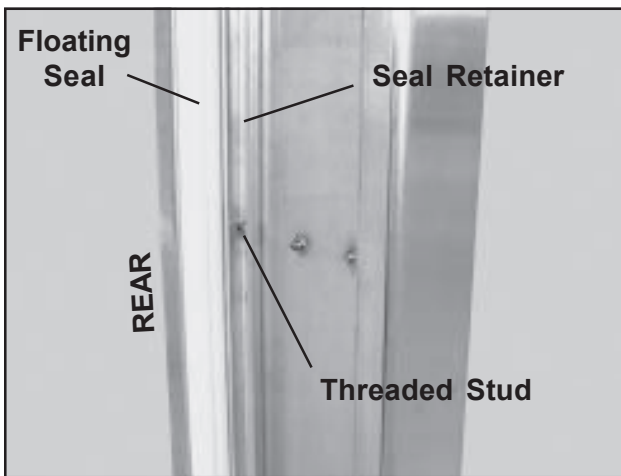

Figure 23. Seal Retainer in Place
4. Hang this seal retainer on the rearmost top, center, and bottom threaded studs, with the rear flange inserted into the large groove in the floating seal (Figure 23).